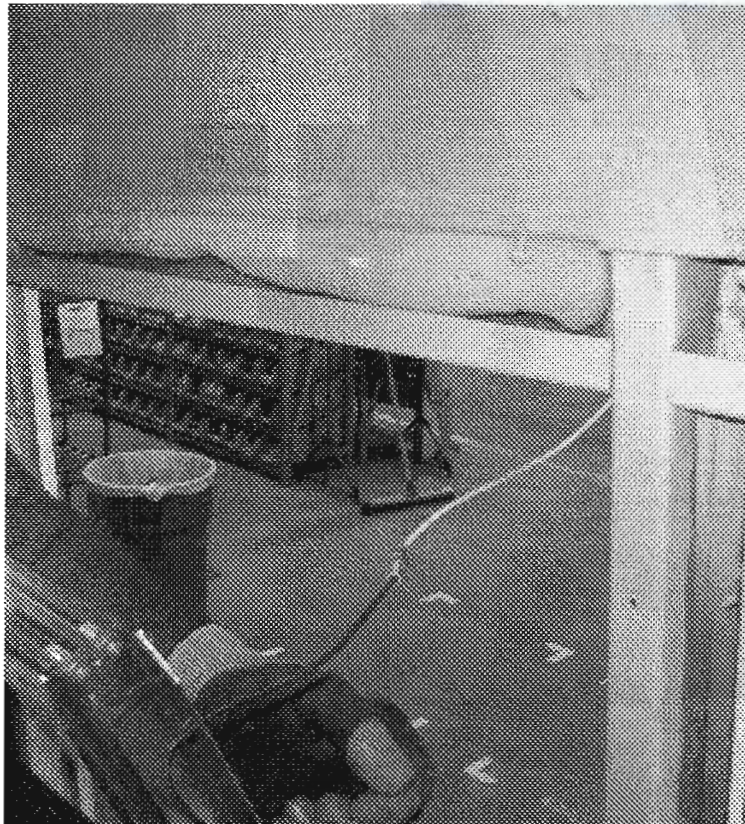

FIGURE 2
4. Cut the push-out window switch wire at the splice. **Figure 2**